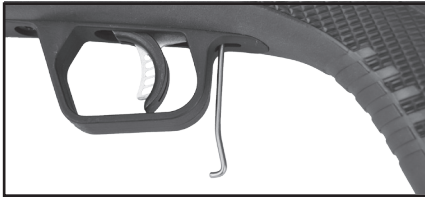

Figure 18
2. Directly behind the trigger guard, there is an access point to adjust the AccuTrigger. Insert the slotted end of the provided **AccuTrigger Adjustment Tool** into the access point – see Figure 18. Rotate the tool until you feel the slot engage with the end of the spring.